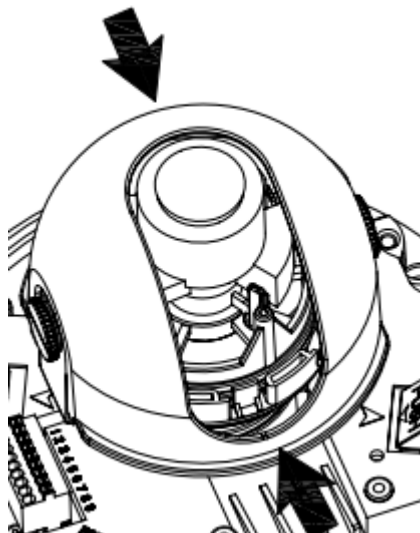

Figure 3-6
a) For the IR series product, you can skip current step and go the step b) directly. For the non-IR series product, push the port slightly to remove the decoration enclosure from the black plastic enclosure. See Figure 3-6.